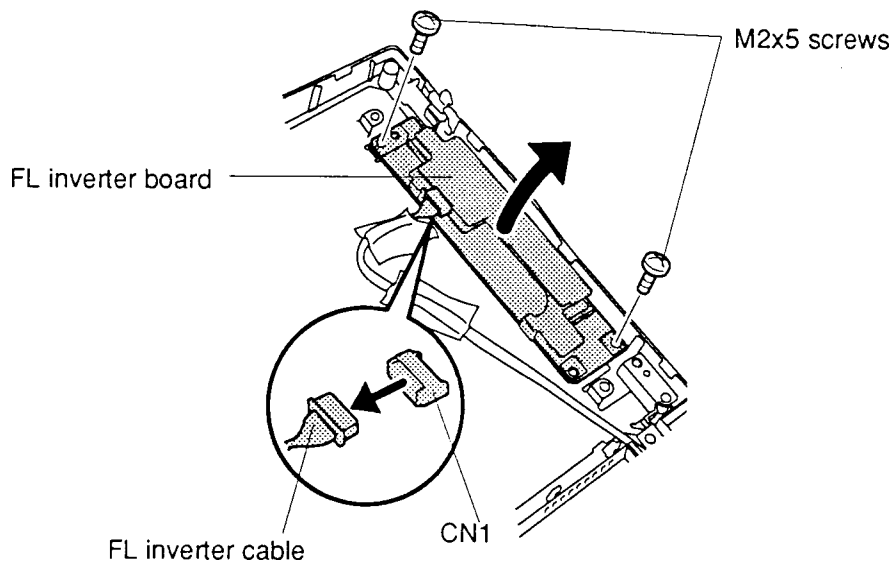

Figure 4-53 Removing the FL inverter board (T4700CT/T4800CT)
To remove the T4700CT/T4800CT's FL inverter board, follow the steps below and refer to figure 4-53.
3. Remove the **two M2x5 screws** securing the **FL inverter board** (figure 4-53).
4. Disconnect the **FL inverter cable** from the **CN1** and lift out the **FL inverter board** (figure 4-53).
To install the T4700CT/T4800CT's FL inverter board, follow the steps below and refer to figure 4-53.
1. Connect the **FL inverter cable** to the **CN1** of the FL inverter board (figure 4-53).
2. Replace the **FL inverter board** and secure it with the **two M2x5 screws** (figure 4-53).